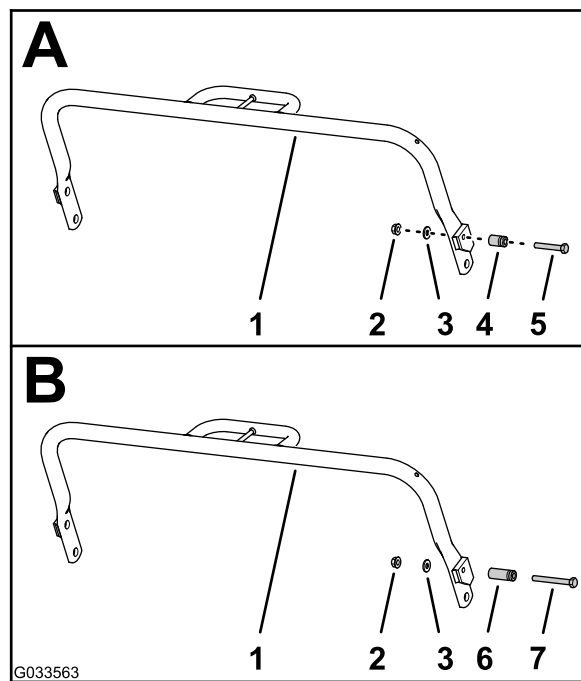

Figure 3
- Remove the flange nut, washer, existing spring post (1 inch), and screw (5/16 x 2 inches) from the right side of the kickstand (A of Figure 3).
- Install the new spring post (1-3/4 inches) on the kickstand with the new screw (5/16 x 2-3/4 inches); as shown in B of Figure 3.
- Use the flange nut and washer that you retained in step 3 to secure the spring post to the kickstand (B of Figure 3).